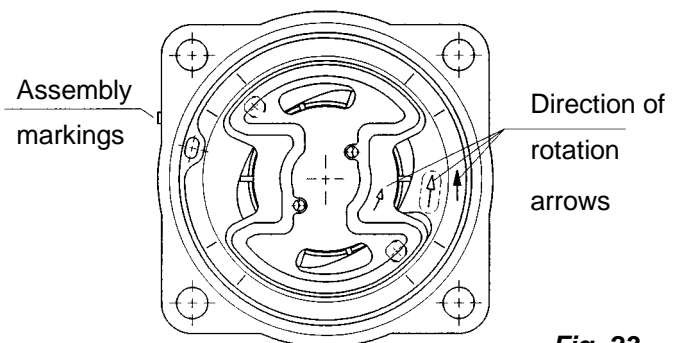
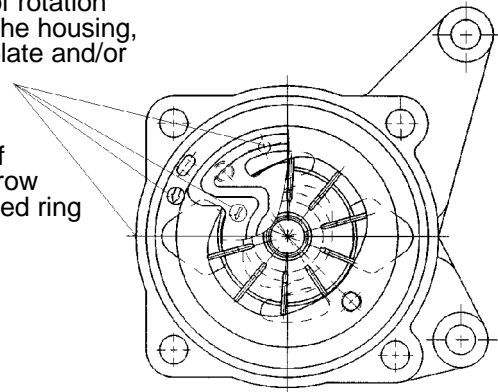
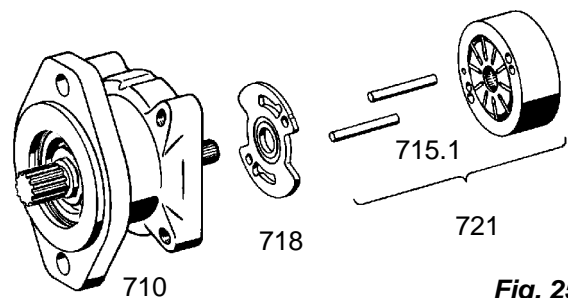

Fig. 23
Fig. 24
Fig. 25
Install the curved ring so that the direction of rotation arrows of the housing, curved ring and front face as well as assembly markings are aligned as illustrated in **Fig. 23** and **Fig. 24**.
Version FP 3: **Fig. 23**
Versions FP 31 and FP 32: **Fig. 24**
Fit the pressure plate (718) on to shaft (703) as illustrated in **Fig. 25**.
Fit pressure plate (723) with the direction of rotation arrow aligned as illustrated in **Figs. 23, 24** and/or **Fig. 25**.